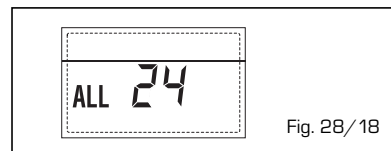

Fig. 28/18
**- ANOMALIA SONDA BOLLITORE SOLARE (S2) "ALL 25" (fig. 28/19)**